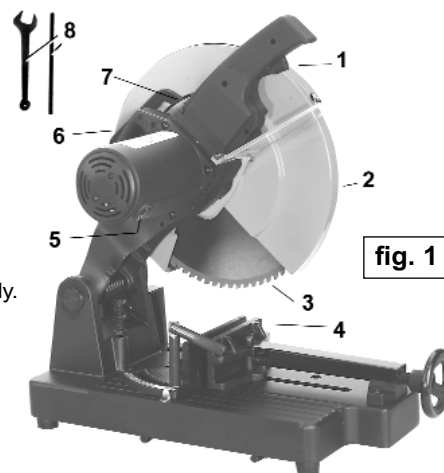

fig. 1
1.1.6. **Important:** Ensure that the voltage marked on the appliance matches the power supply to be used and that the plug is fitted with the correct fuse - see fuse rating, fig. 1.
**MG214/230V - fig. 1**